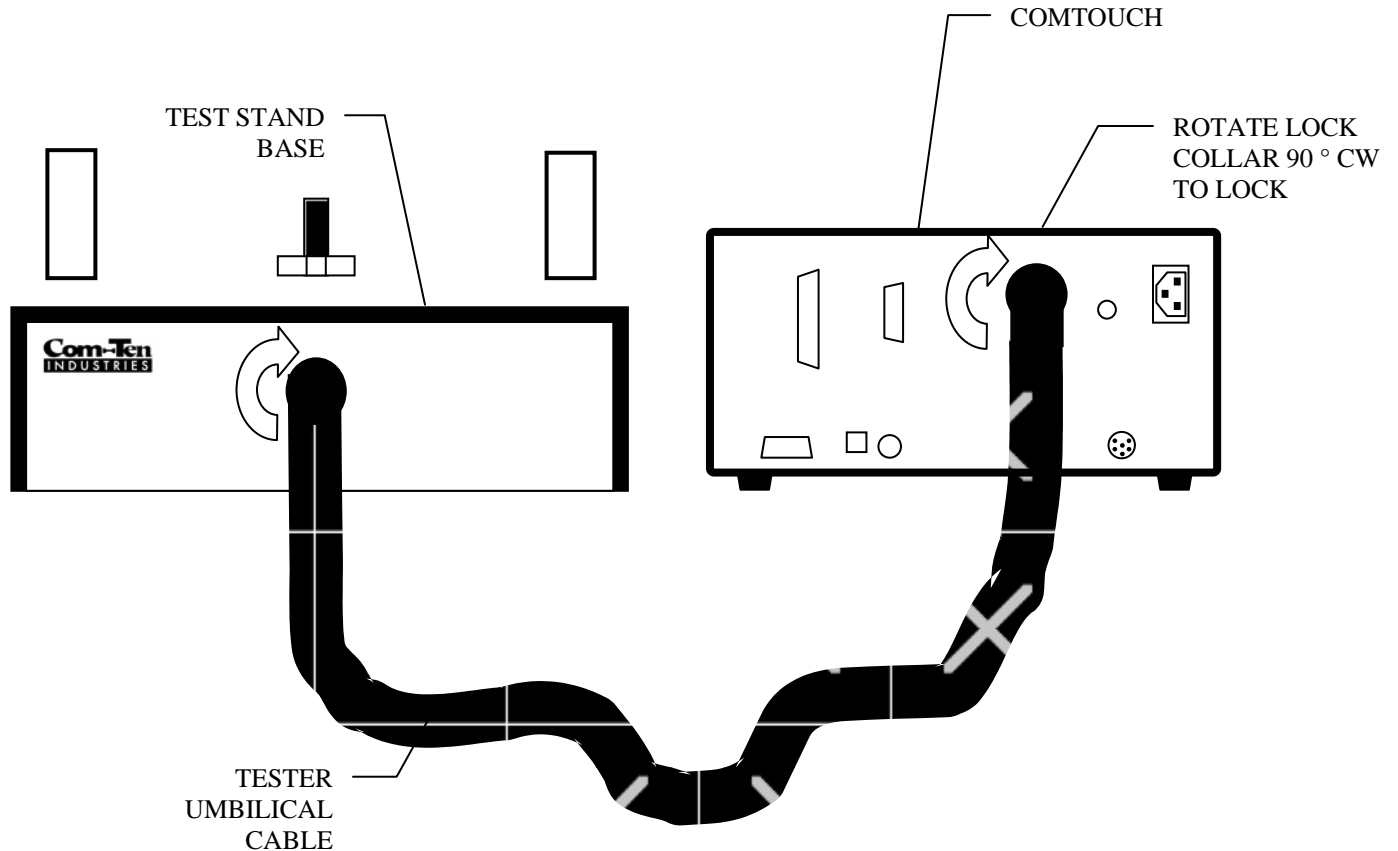

Figure 4.3 – COMTOUCH SETUP
3. Connect the large umbilical cable between the ComTouch and the Test Stand. **The cable is keyed. The large key notch should be up. Align connector end key and push cable into connector. Rotate connector lock COLLAR 90 degrees clockwise to lock connection.** Refer to Figure 4.3 – COMTOUCH SETUP below.